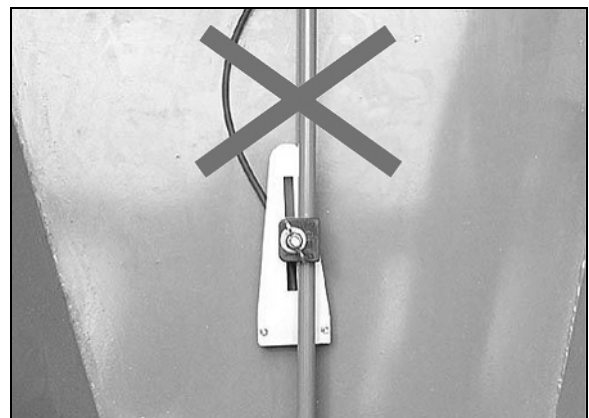

Fig. 85
2. Push the slider (Fig. 85/1) into the dosing unit up to the stop.